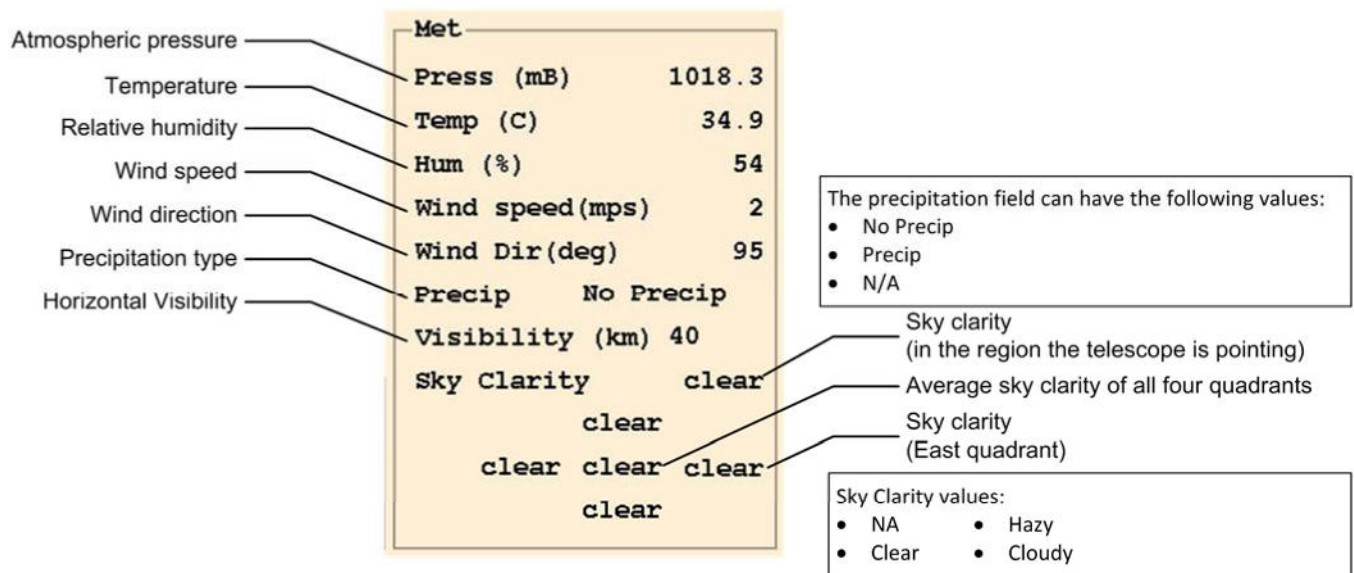

Figure 6-9: Labeled diagram of a portion of the Ratgui main window showing weather information
5. **Verify Weather Measurements** – Ensure that the meteorological data displayed accurately reflects current weather conditions outside the shelter (Figure 6-9). Note that if the values for Sky Clarity are NA, then most likely the Sky Camera software on the Camera computer is not running.